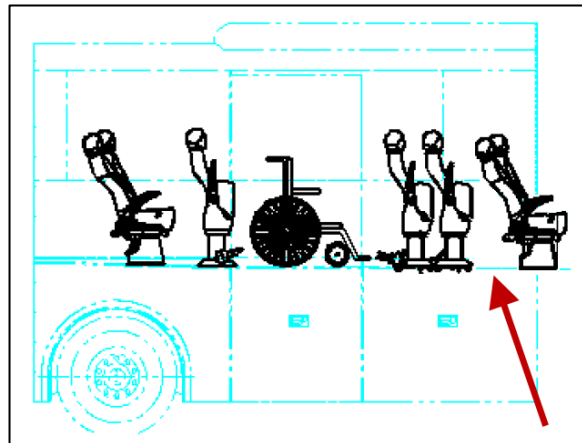

FIGURE 2
2. Locate the front side end of the sliding seat rails (4) on both sides of the vehicle (Figure 2).